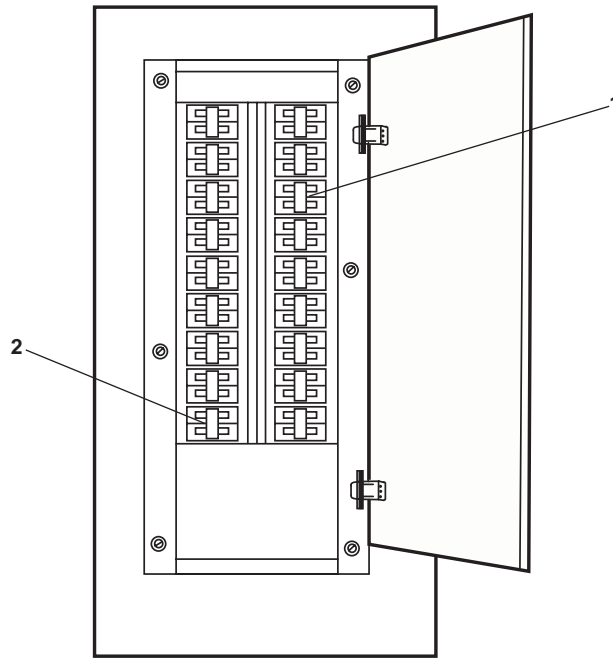

Figure 3. 120V Emergency Distribution Panel No. 1
- c. At the 120V emergency distribution panel No. 1, set the TLI SYSTEM. circuit breaker (figure 3, item 1) to ON.